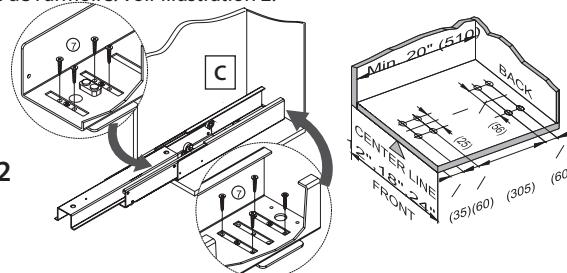

fig. 2
2) Mark 8 hole locations and drill $\frac{1}{8}$ " pilot holes. Roughly align the front of the slide with the front of the face frame and center the slide in the cabinet. Attach to the floor using screws (#7). When using the template to align the pilot hole, be sure to fold across the dotted line on the front of the template to wrap over the face frame or front end of the frameless cabinet. This will keep your slide from being installed too far back into the cabinet. See figure 2.